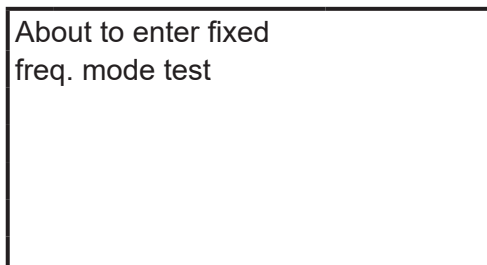

Figure 45 Message to start pulse output check
2. A message stating 'About to enter fixed freq. Mode test' as shown in Figure 45 will then appear. Press F4 (OK) to proceed. If F3 (ABORT) is pressed here, proceed on to step 7.